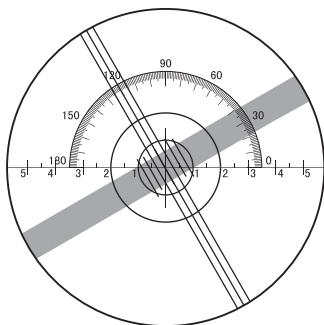
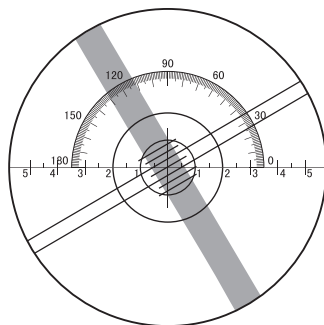

Fig.8.5.1 Image at $+1\text{m}^{-1}$
Fig.8.5.2 Image at -2.5m^{-1}
Step 4: Astigmatism axis angle is directly shown on the astigmatism axis measuring handwheel, which is 30° , as is shown in Fig.8.5.1 and Fig.8.5.2.